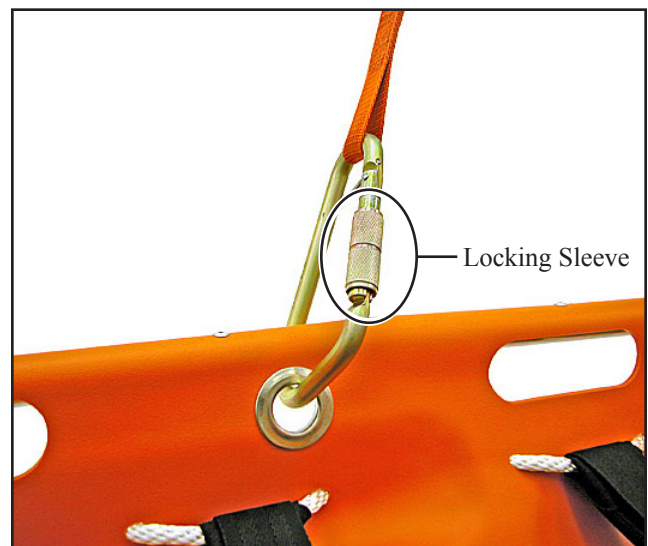

Figure 6 - Carabiner Gate Locked Closed
2. Rotate the locking sleeve until it covers the nose and stops traveling (Figure 6).